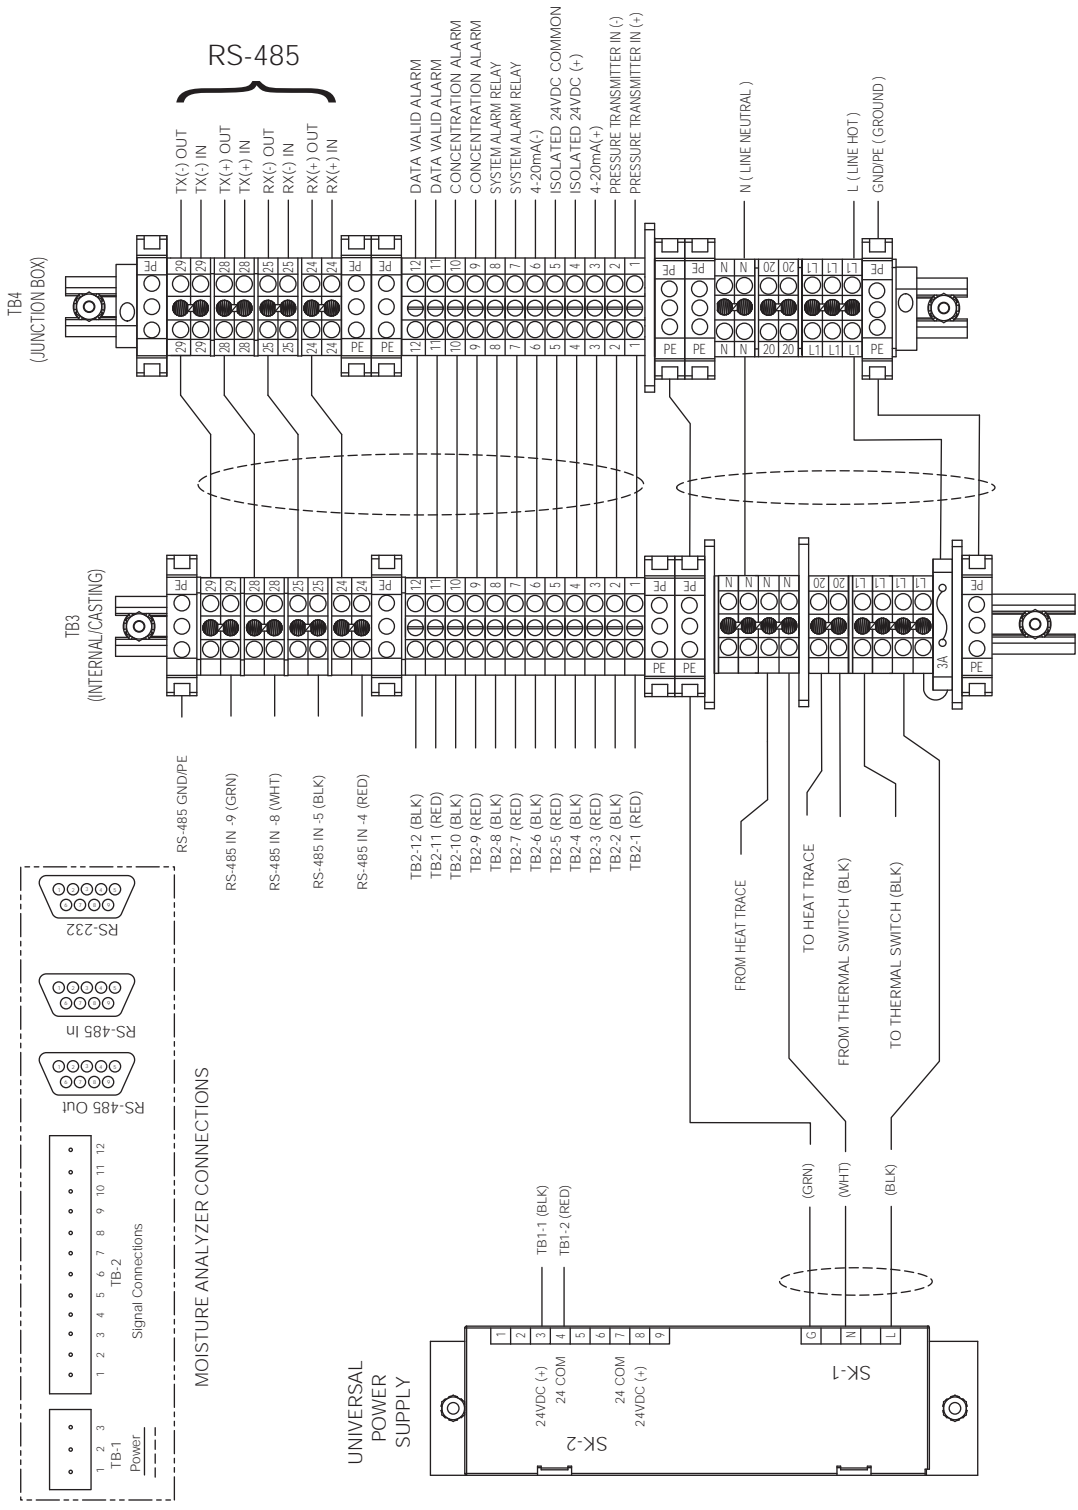

Figure 2. Sample System Wiring Diagram with Junction Box
2. Connect the 4 to 20 mA analog output and alarm contacts from the terminal block to user recording equipment as shown on wiring diagram figure 2.
ing diagram figure 2.